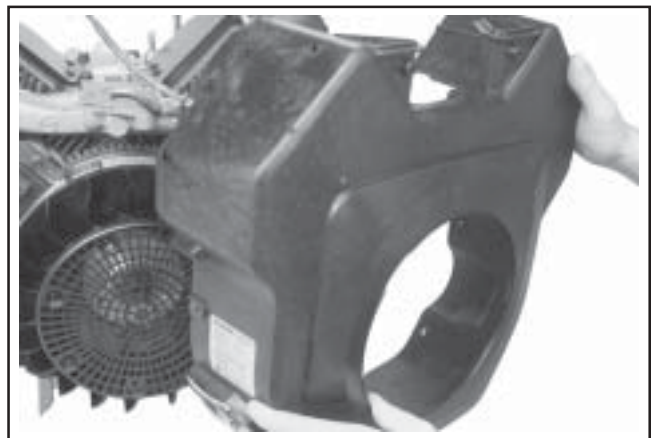

Figure 11-61. Installing Blower Housing.
2. Slide the blower housing into position over the front edge of the inner baffles. See Figure 11-61. Start a few of the screws to hold it in place. On two-barrel carburetor models, lift the debris shield up above the mounting surface, as the blower housing is installed. Make sure the ground lead, fuel solenoid lead, and oil pressure switch leads are accessible and in proper position. See Figures 11-61 and 11-62.